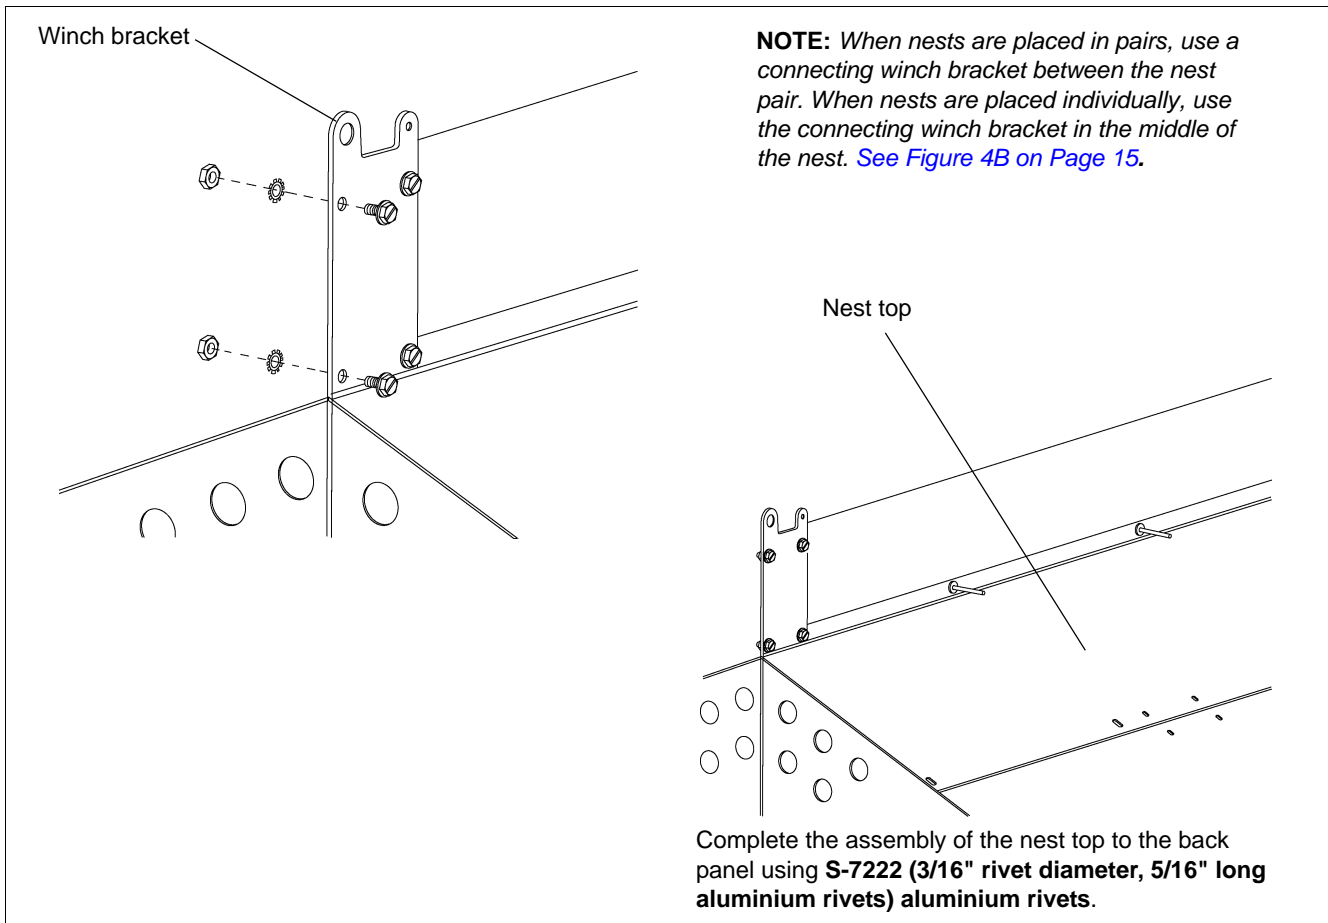

Figure 4I Nest Top/Winch Bracket Assembly
6. Attach a winch bracket on each end as shown in *Figure 4I*. (See Note.) Use S-7139 #10-24 x 3/8" screws, S-6151 #10 external tooth washers and S-849 #10-24 nuts to attach winch brackets to the nest back panel.